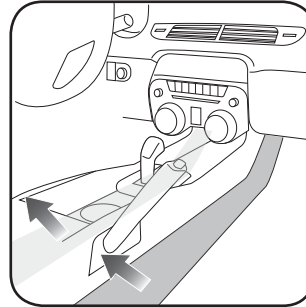

Fig. 1.3
3. Using a panel tool, remove the side panels of the center console by prying the panels out and releasing the retainer clips. (Fig. 1.3)